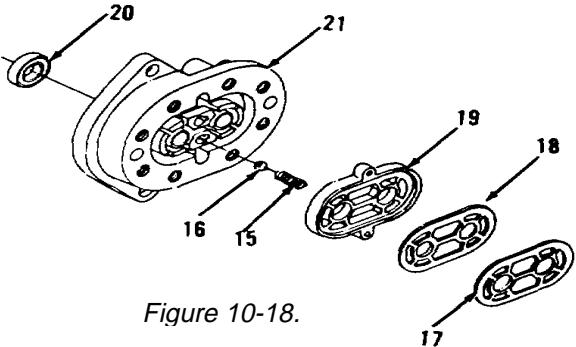
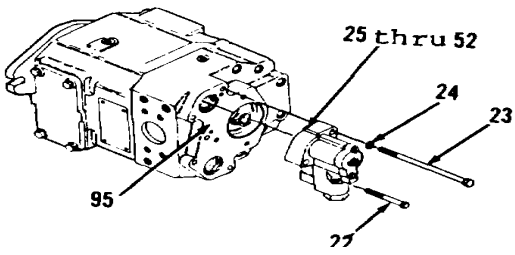

Figure 10-18.
Figure 10-19.
- 9. Remove two springs (15) and balls (16, Figure 10-18).
- 10. Remove and discard gaskets (17 and 18) and seal (19). Remove all gasket material from mounting surfaces.
- 11. Using a suitable puller, remove and discard seal (20) from front plate (21).
- 12. Remove bolt (22), two bolts (23), lockwashers (24) and items 25 thru 52 as an assembly from head (95, Figure 10-19).